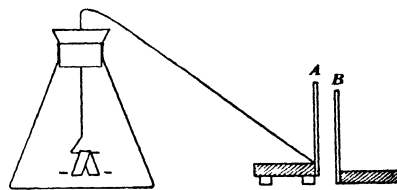

FIG 47
**VII The principle of the condenser** (a) By means of a wire connect the electroscope with a vertical metal sheet *A* (Fig 47), about 4 in square, which is nailed to a piece of wood as shown. Support this on two pieces of sealing wax. Charge plate *A* by giving it a single stroke with a small piece of electrified sealing wax. If the electroscope shows any leak, rub the sealing-wax supports on a cloth until they are warm. Now move a second plate *B*, which you keep in contact with your hand,